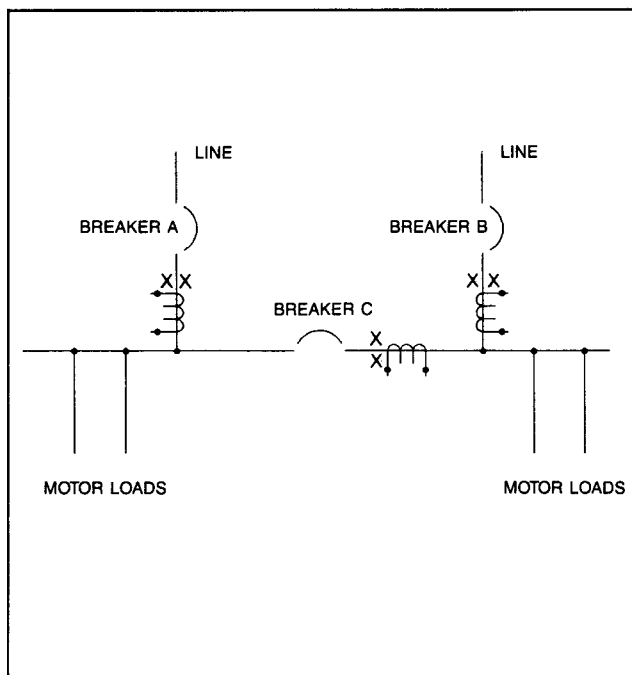

Figure 3.4 Power Distribution
3.2.1.4 Power Distribution — Referring to Figure 3.4, three conditions typically can be encountered.